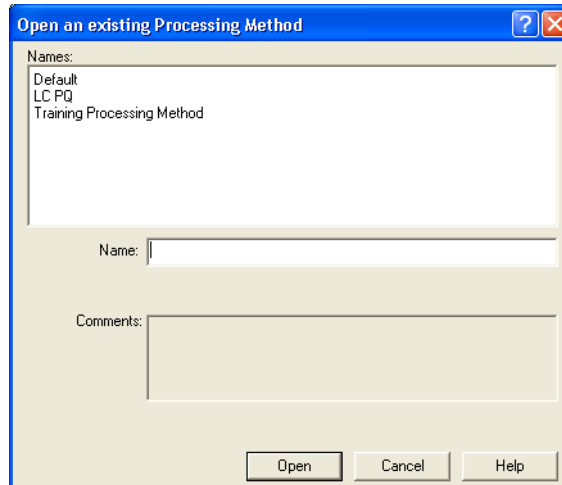

Figure 5-12 Open an Existing Processing Method Dialog Box
3. Click (Copy from Processing Method). The Open an existing Processing Method dialog box appears (Figure 5-12)